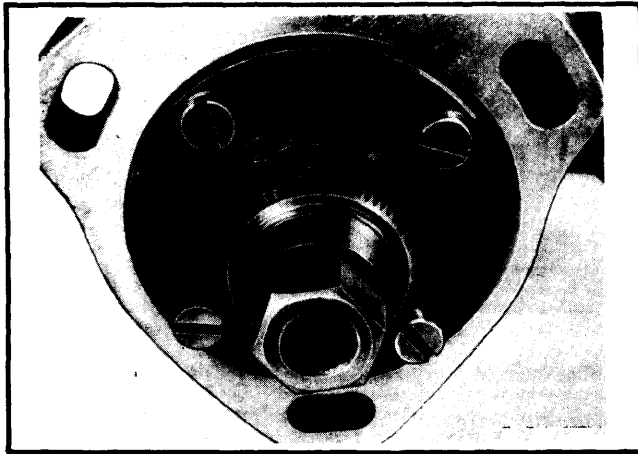

Fig. 5 Injection Pump Mark Alignment
2) Attach supporting holder to new pump and turn crankshaft to 24° BTDC. Using new gasket, install pump with shaft and flange marks aligned. See Fig. 5.